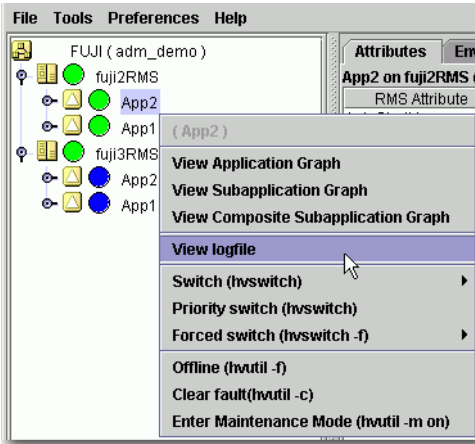

Figure 3: Viewing an application log using a context menu
- ▶ Right-click on an application on the RMS tree and choose *View logfile* from the pop-up context menu (Figure 3).